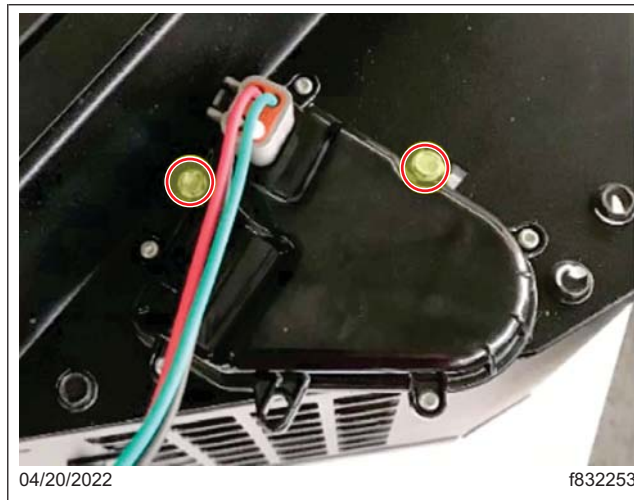

Fig. 4, New Actuator Screws
8. Install the new sealed actuator using two hexhead screws and spacers as shown in Fig. 4.